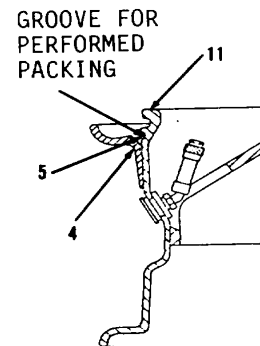

Figure 7-4.
5. Install flange (4) to wheel (11), making sure that groove for preformed packing (5, Figure 7-4) is exposed around entire circumference of wheel.
6. Apply non-detergent rubber lubricant to new preformed packing (5).